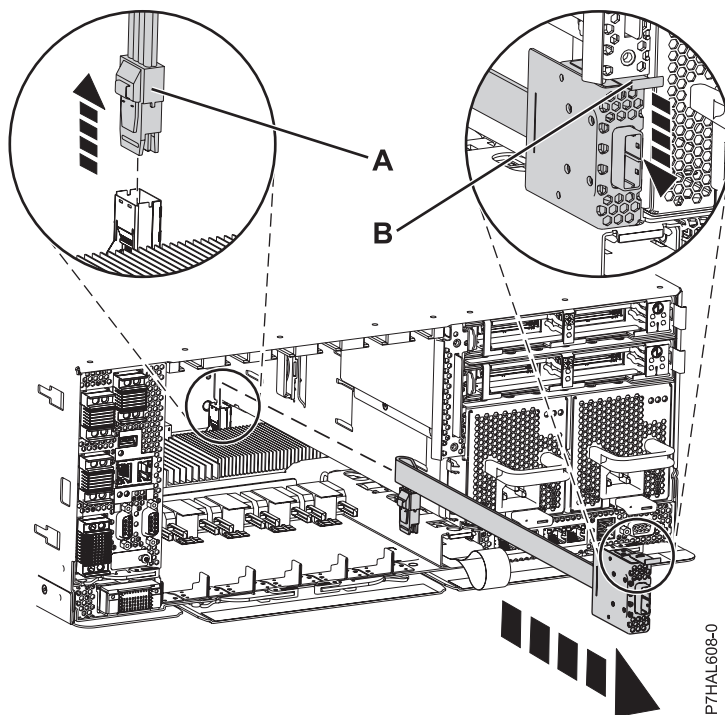

Figure 34. Removing the SAS cable
4. Press the side tab and pull the SAS shroud (A) out of the SAS connection port on the system backplane, as shown in Figure 34.
5. Push the external SAS port down (B) and then pull the SAS cable out of the system.